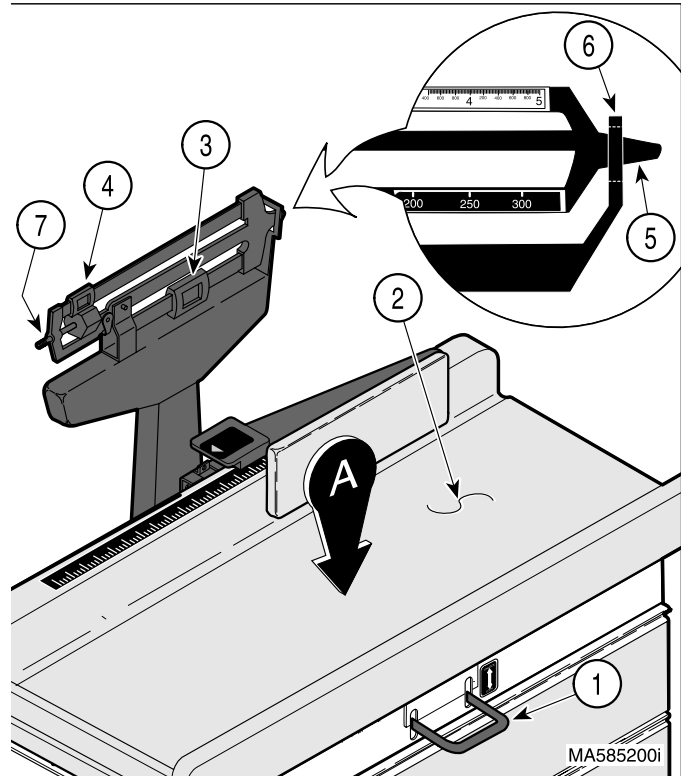

Figure 4-2. Zero Balance Adjustment
- (1) Move the table top locking handle (1, Figure 4-2) to UNLOCK position.
- (2) Push down on center of table top (Point A) a few times to align and exercise all internal parts.
- (3) Remove any items from upholstered table top (2).